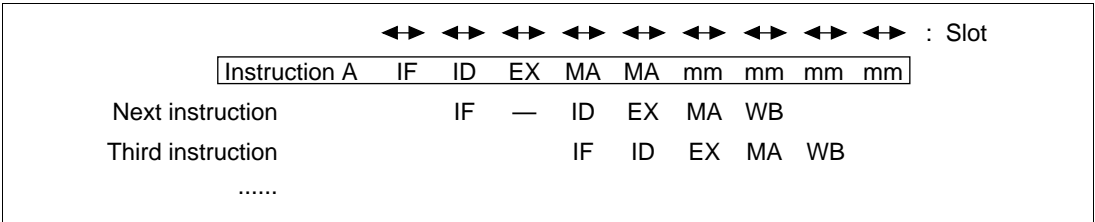

Figure 7.32 Multiply/Accumulate Instruction Pipeline
The pipeline has nine stages: IF, ID, EX, MA, MA, mm, mm, mm, and mm (figure 7.32). The second MA reads the memory and accesses the multiplier. The mm indicates that the multiplier is operating. The mm operates for four cycles after the final MA ends, regardless of slot. The ID of the instruction after the MAC.L instruction is stalled for one slot. The two MAs of the MAC.L instruction, when they contend with IF, split the slots as described in section 7.2.1, Contention between Instruction Fetch (IF) and Memory Access (MA).